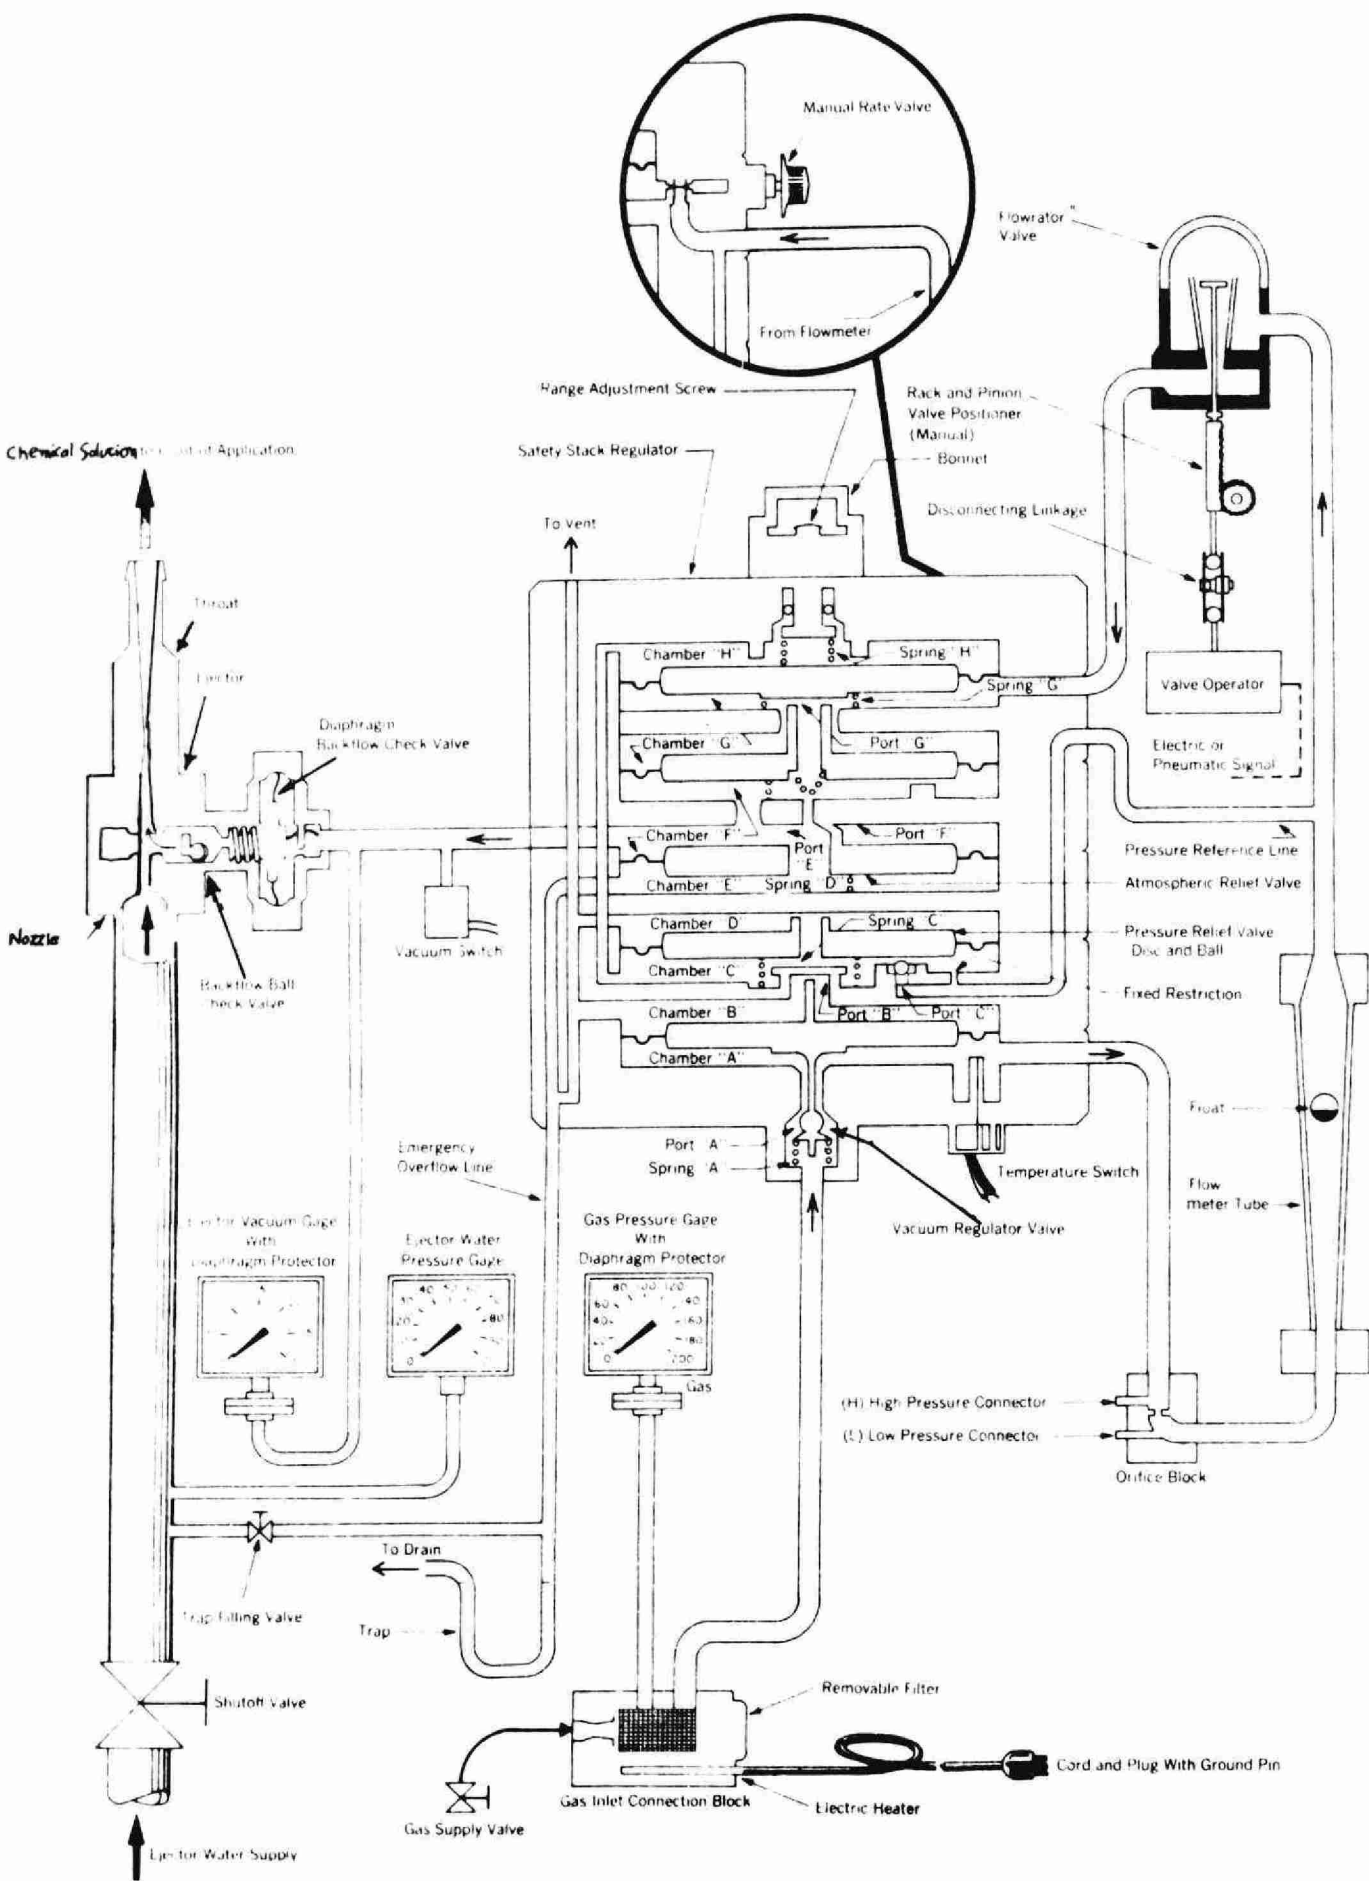

Fig 13-5 Fisher Porter Series 70-3400 Gas Dispenser With Fixed and Adjustable Range Safety-Stack Regulator
5. Fischer & Porter Gas Dispenser (see Fig. 13-5)
Refer to Figure 13-5 to supplement the following functional description. The description assumes that the rate valve (the manual rate valve or the flowrator valve, whichever is present) is partially open, that the gas supply containers have been connected and the gas supply valves are open, and that the ejector water supply valve has just been opened.
As the water, under pressure, is forced through the ejector nozzle, a vacuum is created within the throat of the ejector due to the high velocity of the water as it leaves the nozzle. This vacuum builds up in the gas line between the ejector and the safety stack regulator and in the chamber designated "F" in Figure 13-5. The vacuum in chamber "F" pulls diaphragm "D" down against its stops,
As shown in Figure 13-5, the adjustable range safety stack regulator includes an additional spring ("H") and a range adjustment screw. The tension of spring "H", which can be manually adjusted with the range adjustment screw, partially cancels the tension of spring "G". In effect, this allows the tension of the differential pressure regulator spring ("G") to be adjusted so that the pressure differential across the rate valve can be varied. Therefore, the flow rate through the valve can be adjusted (without changing the valve setting) until the gas is flowing at 100% of dispenser capacity when the rate valve is fully open.